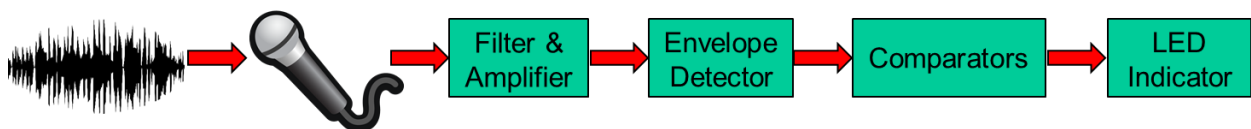

Figure 6. Noise Detector Block Diagram
- The noise detector is designed progressively by dividing it into the sub-systems as shown in Figure 6.